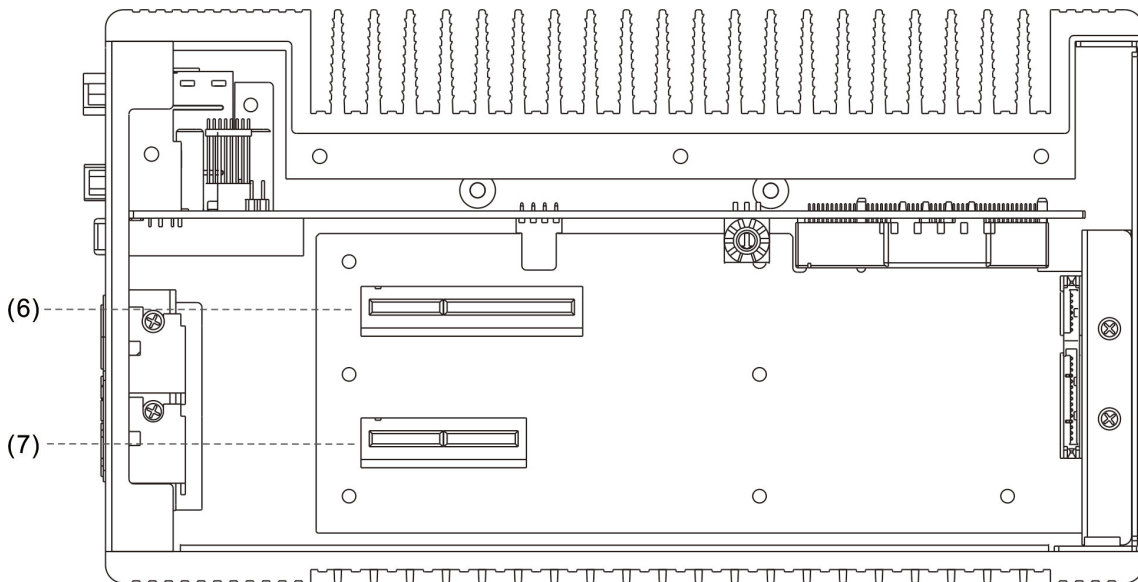

Figure 2.4.2 Top view of the internal of MH1 Series (one PCIe x4 slot + one PCIe x1 slot)
2. PCIe x 4 & PCIe x 1 (one PCIe x 4 slots, one PCIe x 1 slot) as shown in Figure 2.4.2.